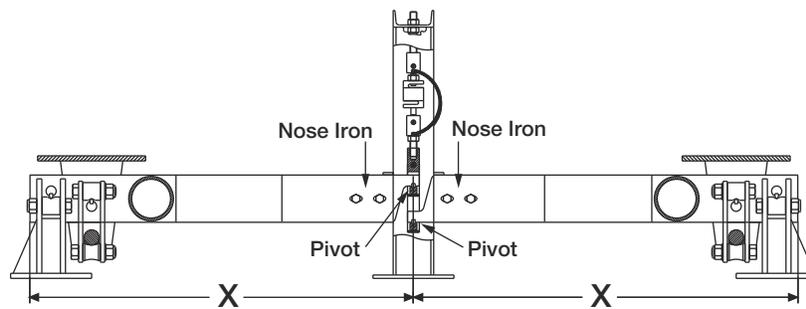

Figure 2-4. Nose Iron Adjustment
12. Adjust nose irons in bolt slots (see Figure 2-4) so distance X from each nose iron pivot to the end of its lever is equal.